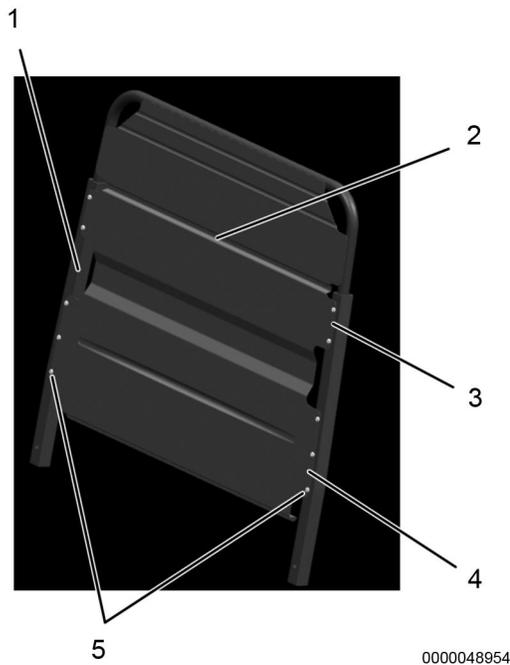

Figure 3. Back Pan.
5. Screw (10)
9. If bent, straighten back pan (Figure 3, Item 2) to fit it to original location.
10. Mark 10 screw locations, and drill through middle and lower back pan tabs (Figure 3, Items 3 and 4) of back pan (Figure 3, Item 2) and back pan frame (Figure 3, Item 1).
12. Secure back pan (Figure 3, Item 2) to back pan frame (Figure 3, Item 1) with 10 screws (Figure 3, Item 5) on each back pan drilled.